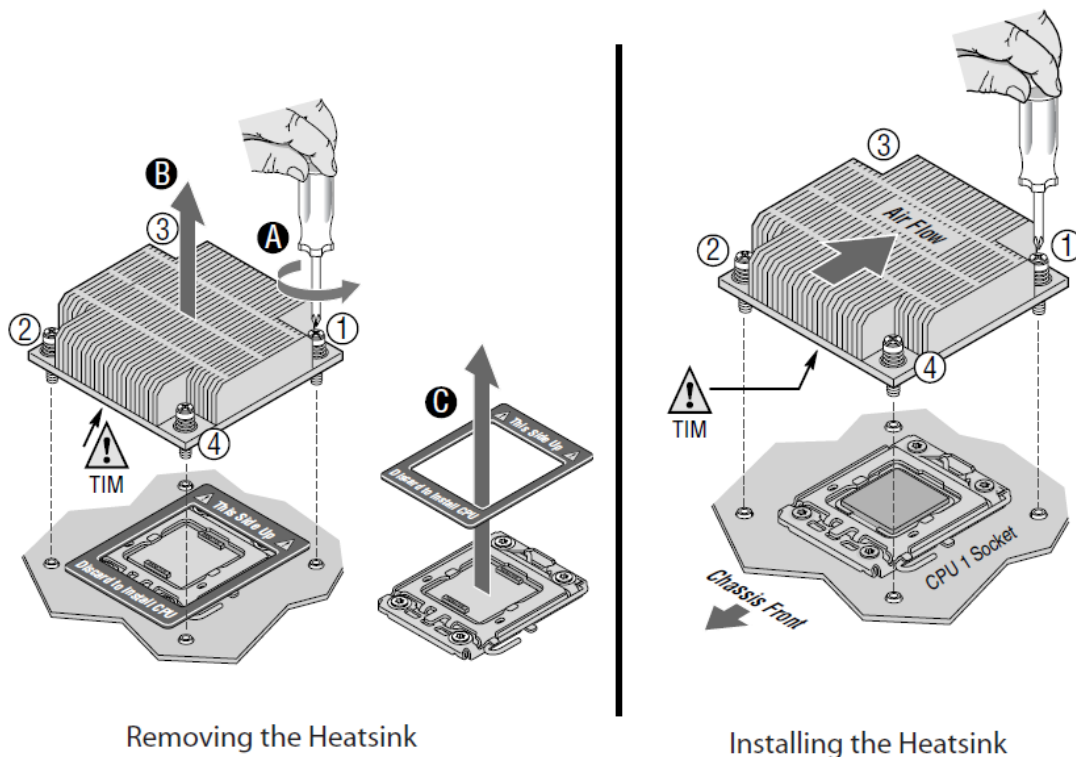

Figure 14. Installing/Removing Heatsink
2. Orient the heatsink over the processor as shown in Figure 14. The heatsink fins must be positioned as shown to provide correct airflow through the system.